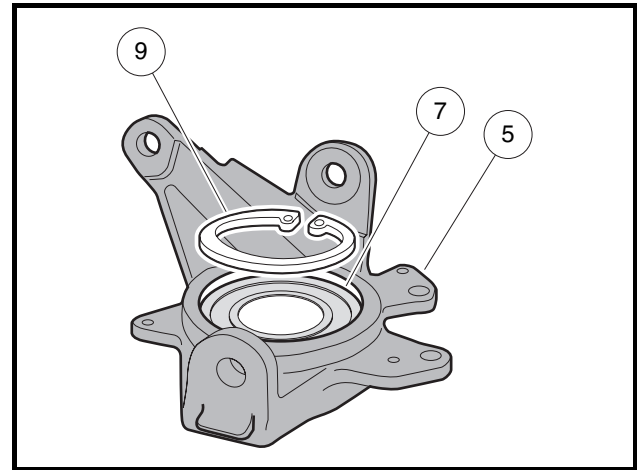

Figure 6-12 Snap Ring
11. Remove the snap ring (9) from the bearing cavity (7) in the upright (5) (**Figure 6-12, Page 6-12**).
14. Install the snap ring (9) into the upright bearing cavity above the bearing (**Figure 6-12, Page 6-12**).